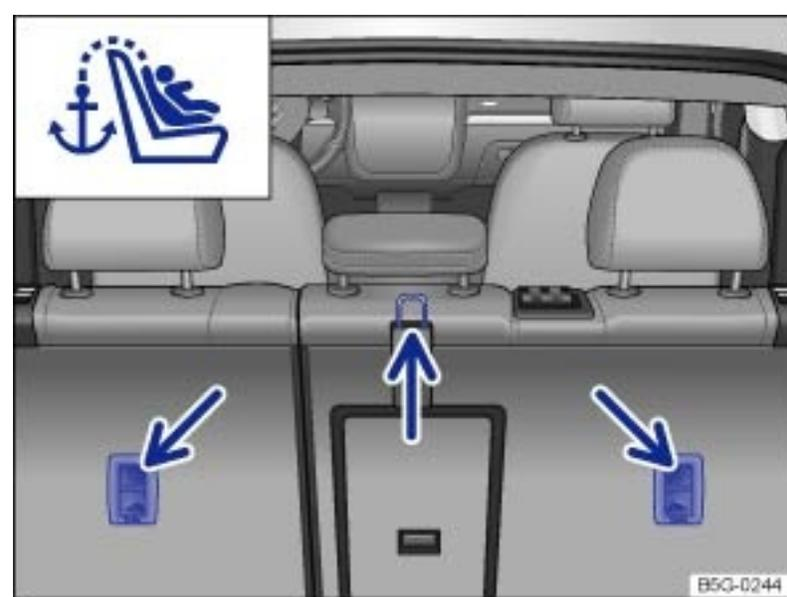

Fig. 81 Behind the rear seat backrests: Top tether anchorages.
- ▶ Locate the tether anchor behind the rear seat backrest → Fig. 81.